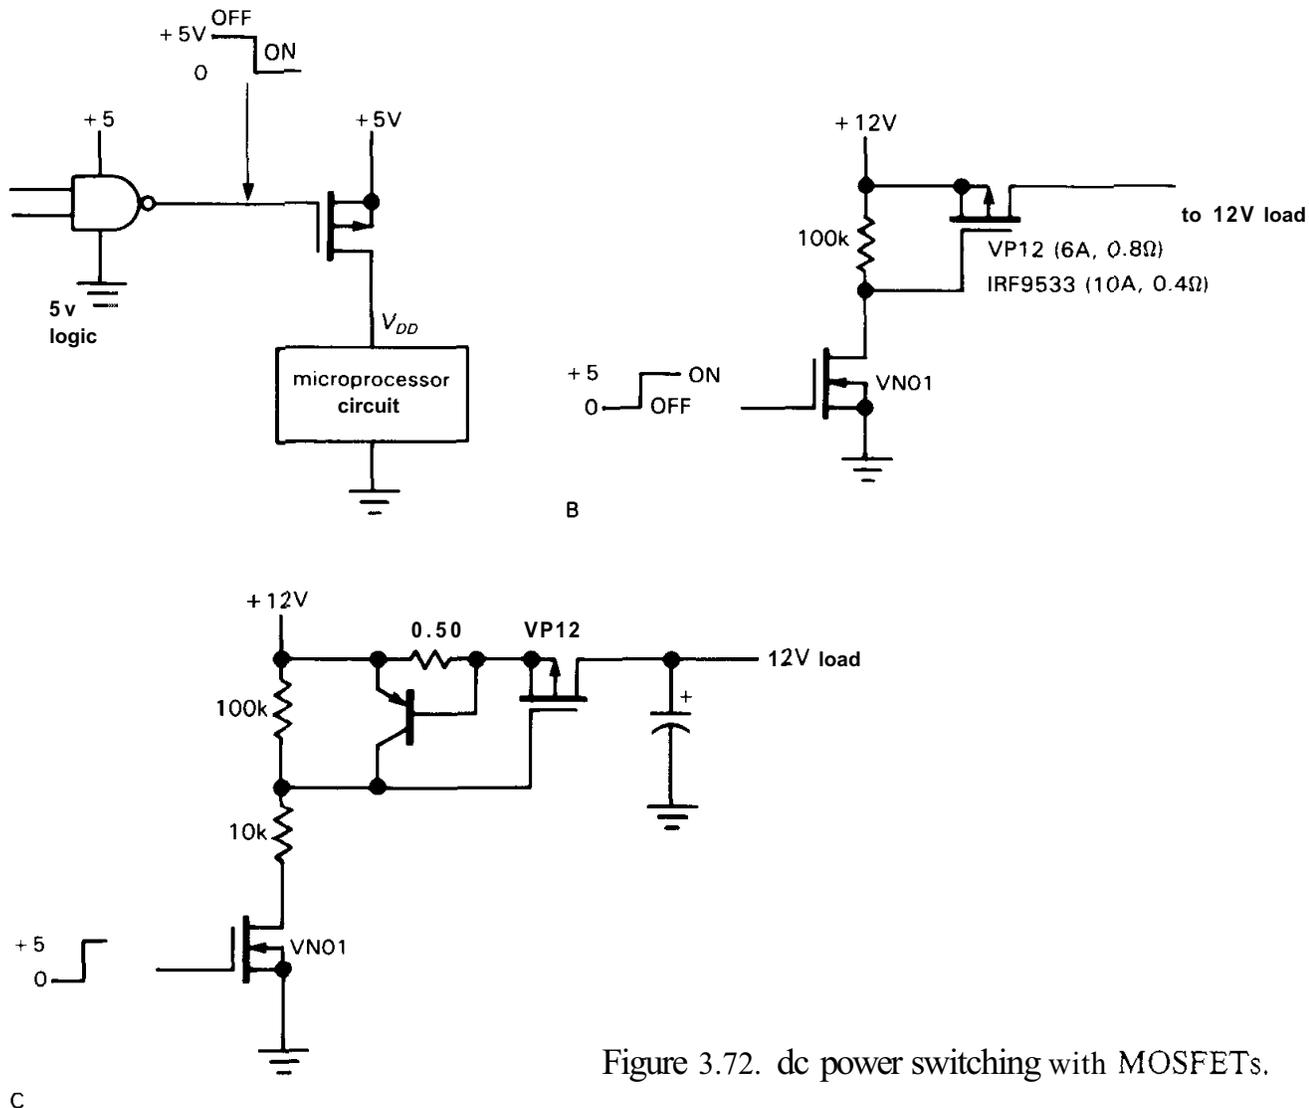

Figure 3.72. dc power switching with MOSFETs.
**Some MOSFET power switching examples.** Figure 3.72 shows three ways to use a MOSFET to control the dc power to some sub-circuit that you want to turn on and off. If you have a battery-operated